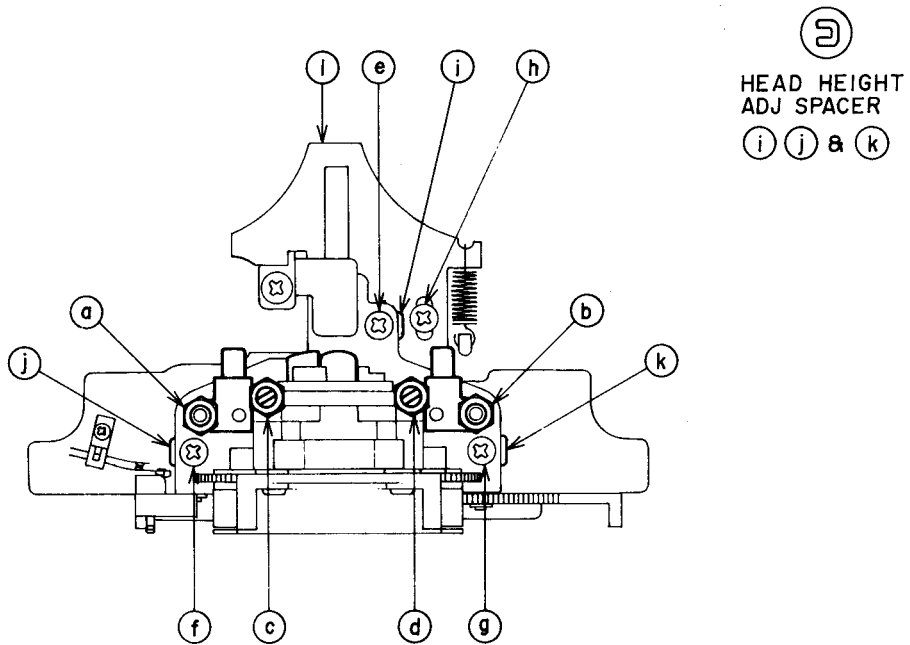

Fig. 8-2
- 2) Adjust the tape guides A and B by turning the tape guide height adjustment nuts (a) and (b) in Fig. 8-2, so that the tape runs smoothly by the lower edge of both tape guides, and the tape is not hitched by those tape guides.
ADJUSTMENT (Refer to Figs. 8-2 & 8-3)